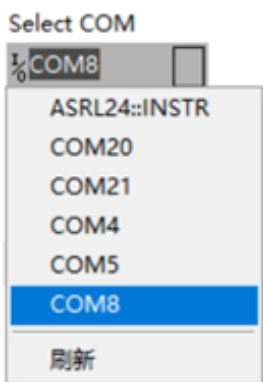
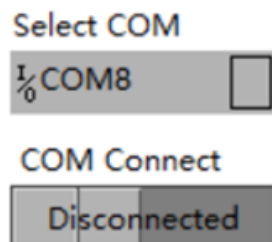
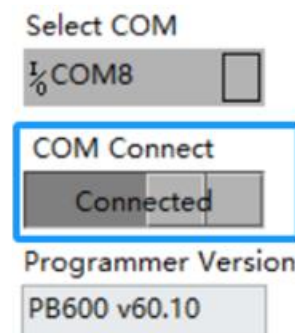

Figure 5.3.3 Select COM
Figure 5.3.4 COM Connect
Figure 5.3.5 Connected state
- Click the menu below "Select COM" to select the corresponding port number for the programmer (Figure 5.3.3). Click the "disconnected" button below the "COM Connect" to establish a communication connection between the programmer and the computer (Figure 5.3.4). After establishing communication between the programmer and the computer correctly, the programmer will return the current firmware version number and display it in the box corresponding to "Programmer Version" below (Figure 5.3.5).